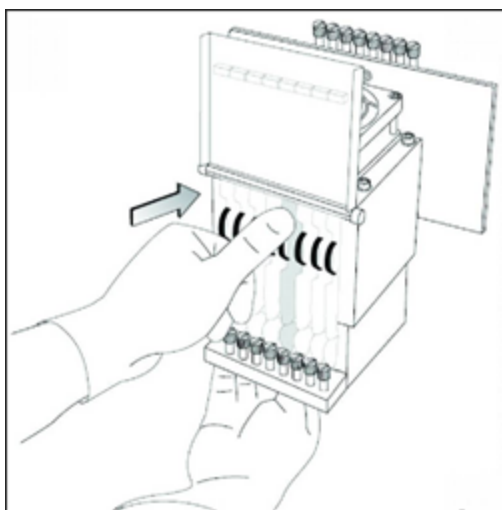

Figure 6-82 Inserting the print-head driver card into its socket
- b. Re-insert the print-head driver card into its socket (see Figure 6-82 on page 6-61).